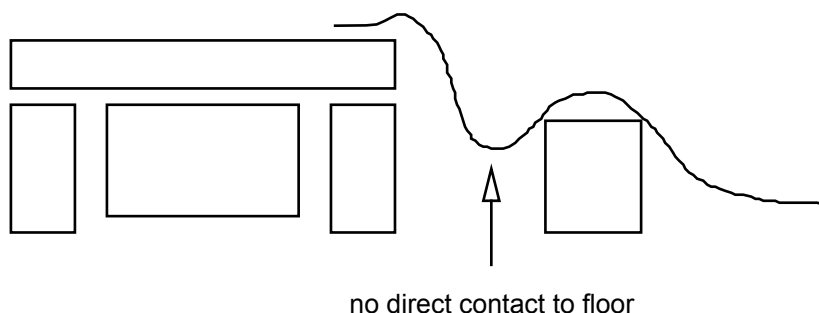

Figure 10. Supporting heavy cables to prevent mechanical noise pick-up.
Any wiring from the rack to any instruments mounted inside the vacuum chamber can introduce vibration to the whole system. It is good practise to attach wires firmly to the bench of the vacuum system or support heavy cables in a U-like bend, see figure 10.
- Check if the pneumatic vibration isolation of the bench is adjusted correctly: no mechanical contact allowed between bench and floor, support heavy cables in a U-like bend, see figure 10.